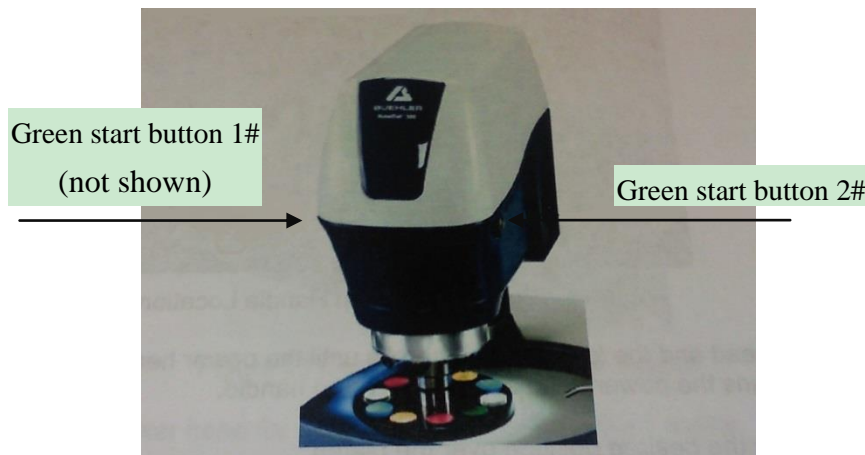

Fig. 13 Power head start buttons
- The green power head start buttons are located on each side of the power head, as shown in Fig. 13.